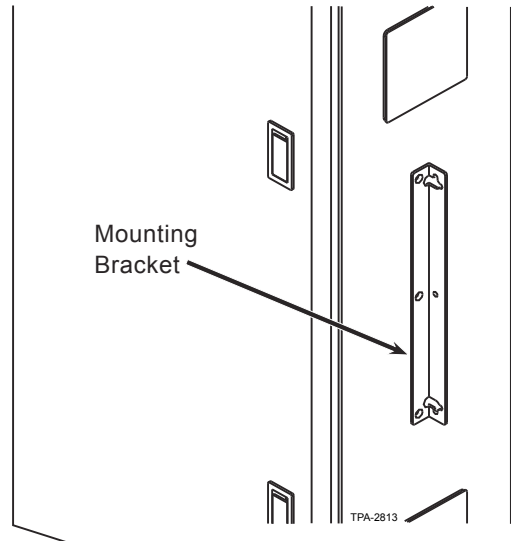

Figure 2 — Frame Mounting Bracket
- Step 1:** Mount the cabinet to the frame using the two OSE mounting brackets on both sides of the cabinet (Figure 2).